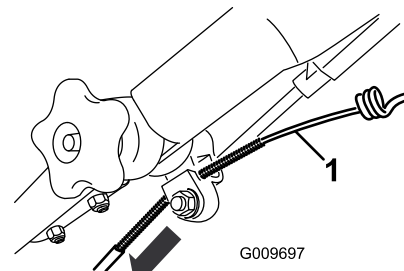

Figure 43
3. Pull the cable jacket downward until you remove the slack in the exposed cable (Figure 43).